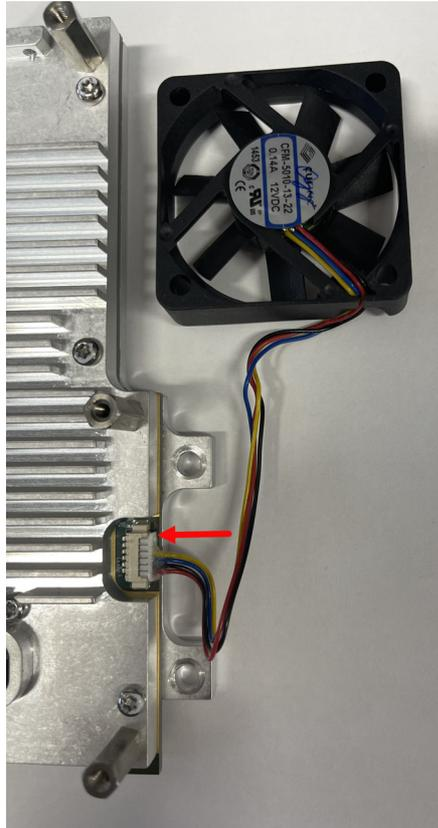

Figure 4-18. Fan Assembly Removal
1. Carefully disconnect the harness and lift the fan assembly out of the case. See Figure 4-18.
2. Make sure that the label of the fan assembly faces outwards while fitting it into the LCD top case assembly. See Figure 4-18.
3. Use caution as not to cripple the fan assembly harness in between while securing the Main PCB/SPA assembly onto the LCD Top case assembly. See Figure 4-18.